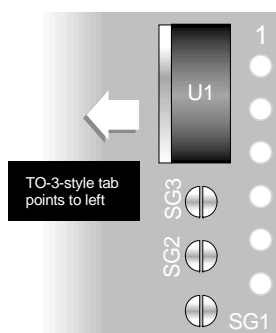

Figure 3. Installing U1
- Battery Operation:** Open SG4 and install U1 (LM7805CT) with its metal tab facing to the left as shown in Figure 3. Allowable input power ranges (J1, pins 5 and 6) are as follows: